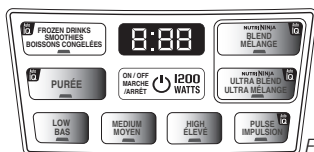

Fig. 1
- 3 Align and lower the pitcher onto the motor base. (Fig. 1) Handle should be aligned slightly to the right of the "LOCK" symbol on the motor base.
NOTE: Nutri Ninja™ | Ninja® Blender Duo™ with Auto-iQ™ Technology can sense which jar is on the motor base. The available function lights will illuminate depending on which jar is placed on the motor base. (Fig. 1)